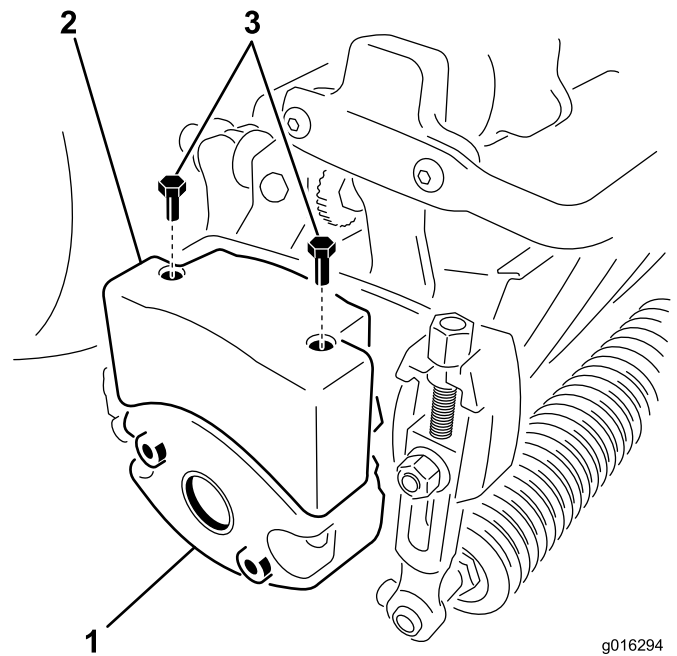

Figure 10
4. Remove the 2 bolts securing the weight to the side of the cutting unit (**Figure 10**).
6. Install an upper weight to the cutting unit weight using 2 hex head screws (**Figure 10**).